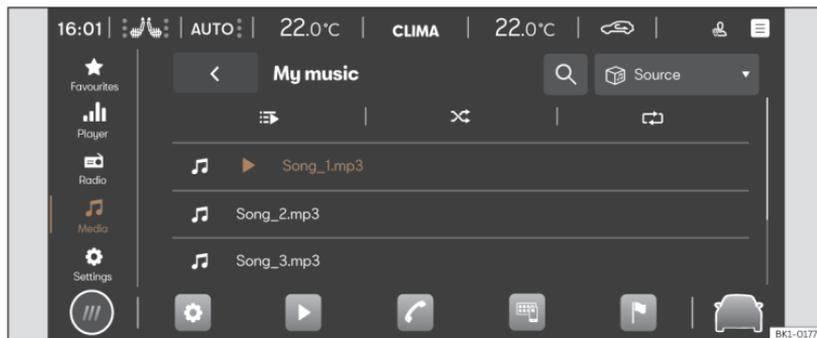

Fig. 164 Schematic diagram: Media view
- Press **HOME** > ► > 🎵 >>> **Fig. 164**.